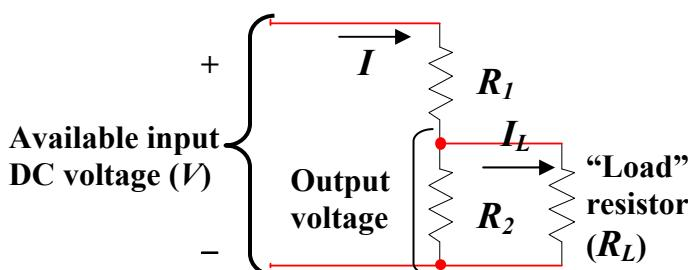

Fig. 1. Schematic of Voltage Divider Circuit.
3.1.1. Fig. 1 above shows such a voltage divider. Say the voltage requirement is $0.3V$. The output voltage is $I \cdot R_2$; $I = V / (R_1 + R_2)$ (assuming R_L , as shown in Fig.1, is not yet connected). If 70% of the voltage drop is in the upper (R_1) resistor, the desired output voltage will be $0.3 V$. Since total resistance R_T of the two resistors is $R_1 + R_2$, then to get $0.3 V$ across the smaller resistor, we need $R_1 = 0.7R_T$, and $R_2 = 0.3R_T$. Clearly, if R_2 is 30% of the total resistance, then the voltage drop on R_2 is $0.3V$. That is, $(R_2 / [R_1 + R_2]) = 0.3$. Clearly, a voltage divider cannot increase a voltage.